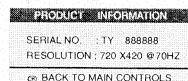

Fig. 25
2. Select "Product Information" => Press "OK" button => Bring up Fig. 25.